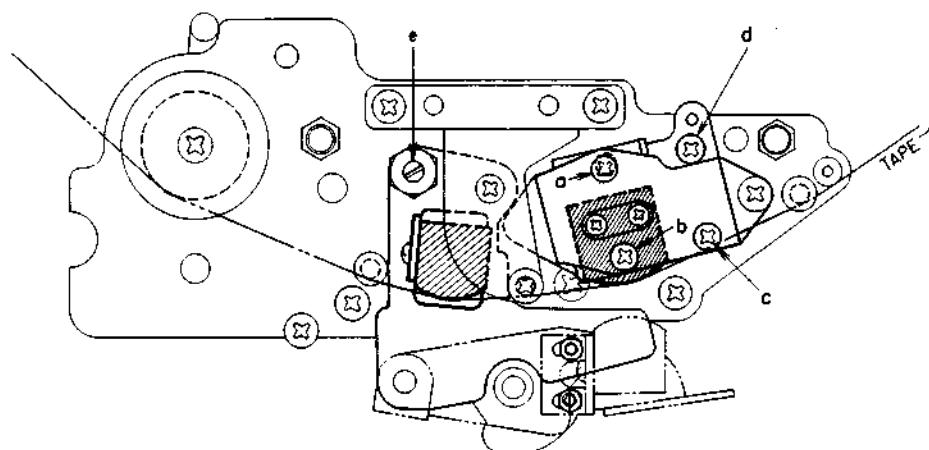

Fig. 9
(See Figs. 9, 10)
- 1) To adjust, turn screws (a) (b) (c) (Fig. 9) During "Normal Play" position so that the upper edge of the upper core of the Playback/Rec Head is the same height as the upper edge of the tape. Adjust by turning screw (d) (Fig. 9) during "Reverse Play" position so that the lower edge of the lower core of the Playback/Rec Head is the same height as the lower edge of the tape.
(See Fig. 9)